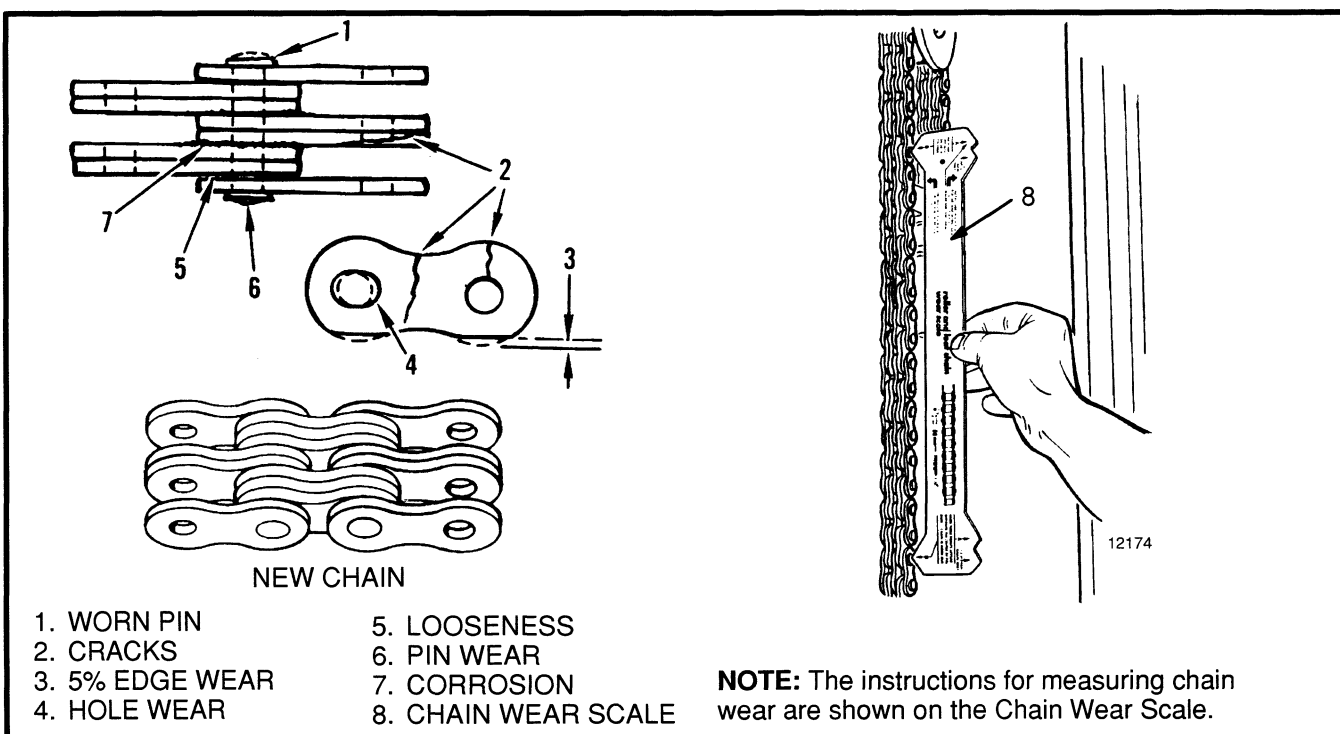

FIGURE 8. CHAIN PARTS AND WEAR
3. Inspect the lift chains for cracks or broken links and pins. Check for corrosion or worn holes in the links. When the pins or the holes wear, the chain becomes longer. The chain links that run over the chain sheaves have the most wear. If a chain is 3% longer than a new chain, the chain must be replaced. If a chain scale is available, check the lift chains as shown in FIGURE 8. If a chain scale is not available, measure 20 links of chain. Compare the measurements with the lengths given in TABLE 1. Replace the chains if the increase in length is 3% or greater.
12. Push the intermediate weldment toward the top of the outer weldment and connect a crane to its center. When the weldment has support from the crane, remove it from the outer weldment. See FIGURE 8.